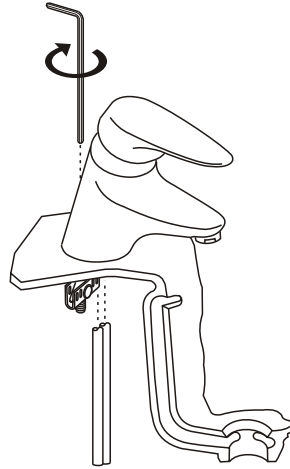

Figure 7
- When positioned correctly, tighten the fitting using the Allen key provided. (Pass the Allen key to the user for future use). (Figure 7)
- Once tightened, position the vertical pop-up rod (16) through the same vertical hole and connect this to the horizontal rod using the connector (17) provided.